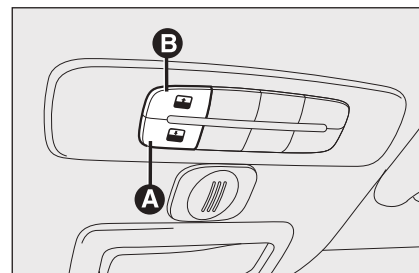
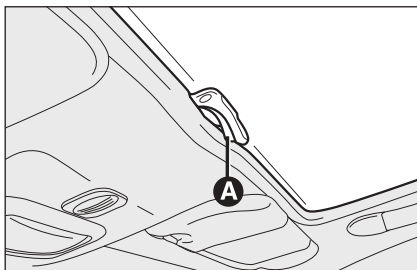

fig. 40
fig. 41
The fixed sunroof with wide glass includes a glass panel provided with manually operated sun visor. The sun visor can be used in the positions “fully closed” and “fully open” (it has no fixed intermediate position). To open the sun visor: press the tooth **A**-fig. 41, release it and move it to “all open position”. To close it, repeat the same operation in the opposite direction.
The openable sunroof with wide glass includes a glass panel provided with manually operated sun visor. The sun visor can be used in the positions “fully closed” and “fully open” (it has no fixed intermediate position). To open the sun visor: press the tooth **A**-fig. 41, release it and move it to “all open position”. To close it, repeat the same operation in the opposite direction. The sunroof can be operated only when the ignition key is on **MAR**. The controls **A-B** fig. 40 on a dedicated dashboard near the front ceiling lights, enable to open/close the sunroof.
Press and keep pressed button **B**-fig. 40, the front pane will set to the “spoiler” position; press button **B**-fig. 40 again for over half a second to make the sunroof sliding automatically to the wide open position; press the button to stop the sunroof at an intermediate position.
When in wide open position, press button **A-fig. 40** for over half a second to set the front pane to the “spoiler” position; press the button again to stop the sunroof at an intermediate position; press button **A-fig. 40** again and keep it pressed to close the sunroof completely.
- ☐ press button **A-fig. 40** at close position;